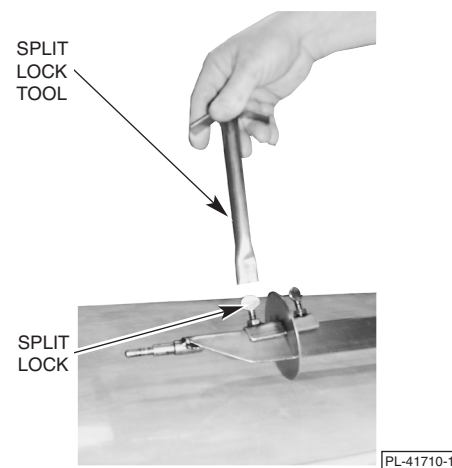

Fig. 22
- Install the optional spit locks (if desired). Place spit lock at end of spit and tighten with spit lock tool (Fig. 22).